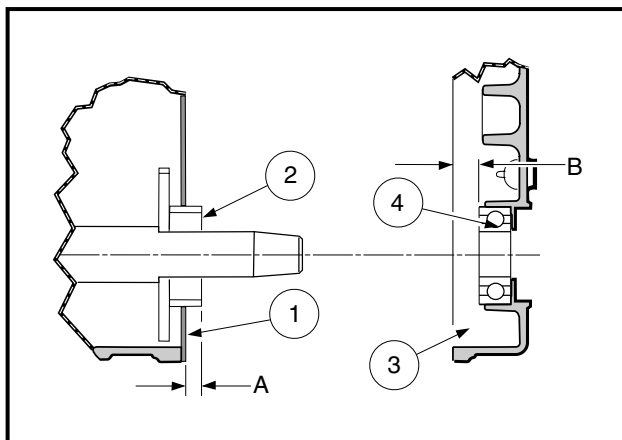

Figure 13-99 Determine Crankshaft Shim Size
1. With the gasket installed on the crankcase, measure from the gasket surface (1) to the helical gear surface (2). Record measurement (A) (Figure 13-99, Page 13-45).
2. Measure from the crankcase cover (3) mounting face to the crankshaft bearing inner end (4). Record measurement (B) (Figure 13-99, Page 13-45).